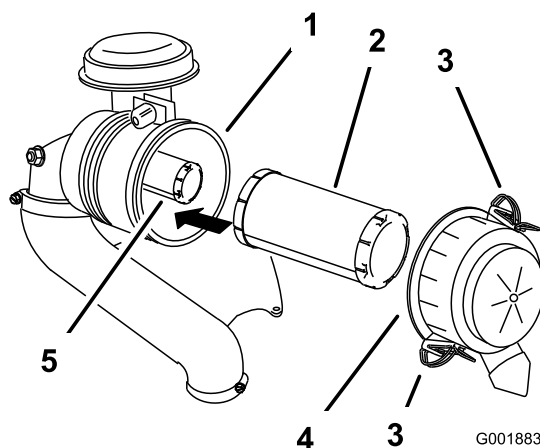

Figure 46
3. Release the latches on the air cleaner and pull the air-cleaner cover off the air-cleaner body (Figure 46).
5. Gently slide the primary filter out of the air-cleaner body (Figure 46).
2. If you are replacing the inner filter, carefully slide it into the filter body (Figure 46).
3. Carefully slide the primary filter over the inner filter (Figure 46).